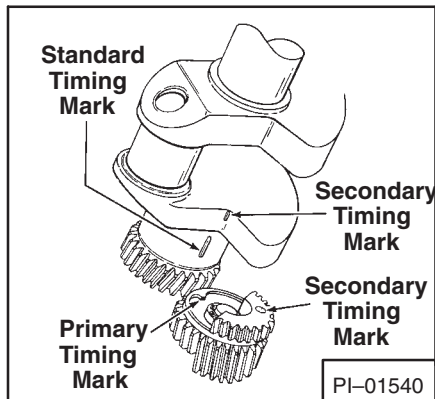

Fig. 46A Timing Marks
1. Put the crankshaft into the cylinder block. Align the primary timing mark on the top balance gear with the standard timing mark on the crankshaft (Fig. 46A). Use a press to push the crankshaft into the crankcase until you engage the crankshaft gear into the timing gear $1/16^{\circ}$.
3. Rotate the crankshaft until it is approximately 15° past BDC. Align the secondary timing mark on the crankshaft with secondary timing mark on the balance gear (Fig. 46A). Install the bottom balance gear as in Dynamic Balance System Steps 5 & 6.